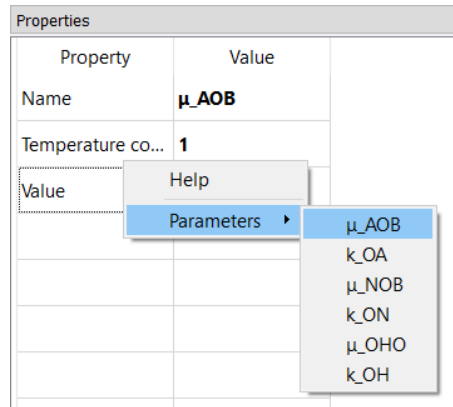

Figure 5.4: Assigning parameters to model properties
8. **Assigning the parameters to the corresponding model properties:** The parameters defined in the previous step should not be assigned to their corresponding properties in the model. Choose the reaction parameter μ_{AOB} from **Water quality**→**Reactions**→**Reaction parameters**, and the right click on the label of **Value** property and from the drop-down menu select **Parameters**→ μ_{AOB} figure 5.4. Repeat for the other parameters to be estimated including k_{OA} , μ_{NOB} , k_{ON} , μ_{OHO} , and k_{OH} .